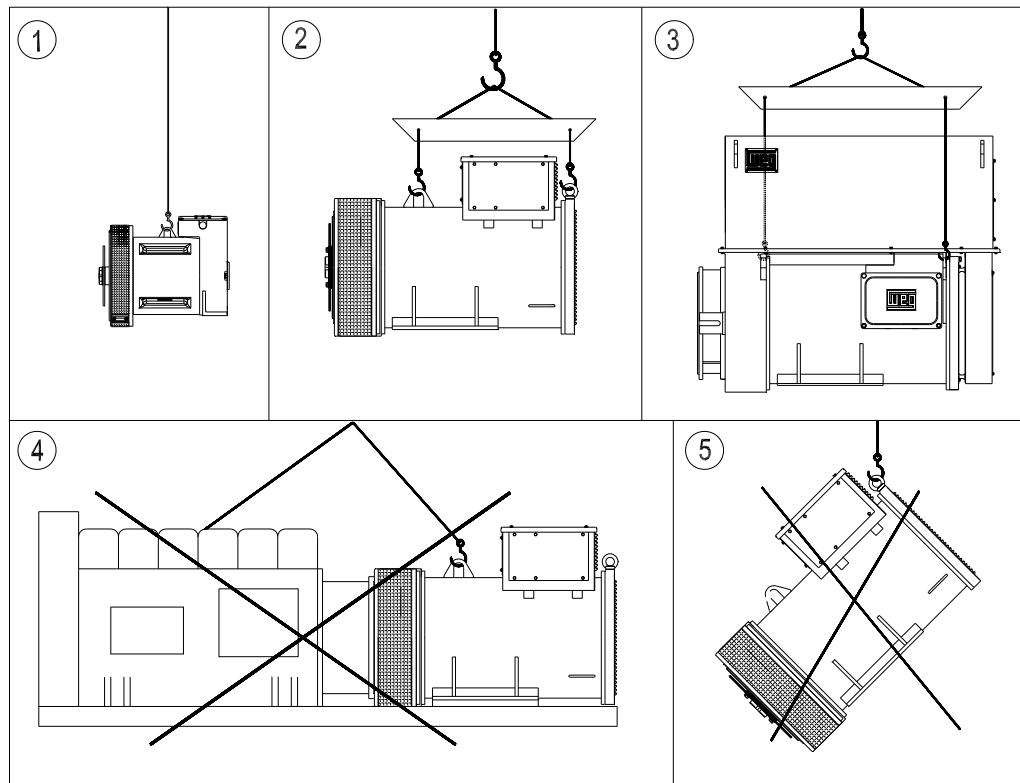

Figure 3.1: Handling of alternator
- Positions **1, 2 and 3** of Figure 3.1, represent the proper way of handling alternators and positions **4 and 5** show the wrong ways;